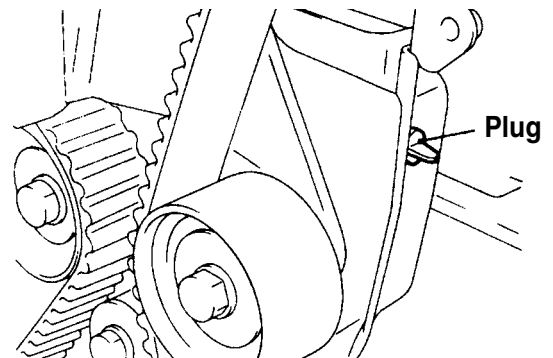

Figure 2
2. Remove the plug in the side cover of the engine. See Figure 2.